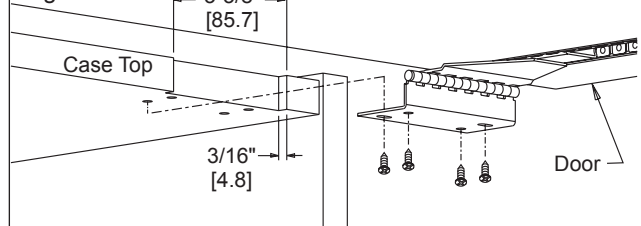

Figure 3
5. When clip-on brackets cannot be used, rout door for slides as shown in Figures 3 and 4. Routing to a depth of 11/32" [8.7 mm] will minimize gap behind door.